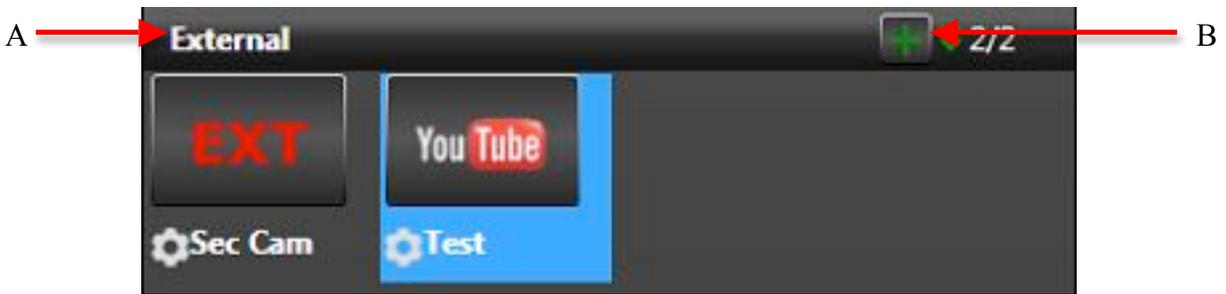

Figure 5A
On the left side of the Receiver interface, there is a section for external sources such as YouTube (A)(Figure 5A) In order to add an external source to the Receiver GUI, click the "+" on the section header (B).